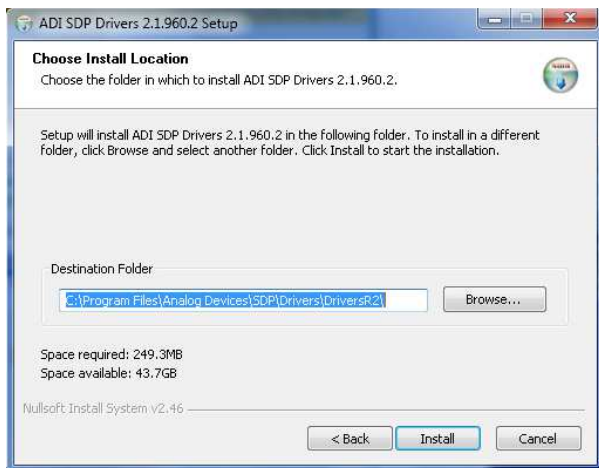

Figure 8. EVAL-SDP-CH1Z Drivers Installation—Choose Install Location
2. Select the location to install the drivers, and then click **Install** (see Figure 8).